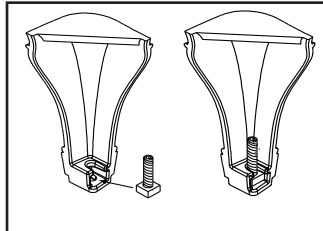
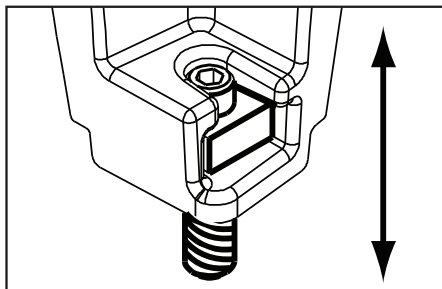

Figure 19.2
Figure 19.3 - Bolt fully extended
2. Slide assembled nuts and bolts into slots on legs with the nuts on the bottom. **Figure 19.2.** Use a 5/32 in. (3.96mm) Allen wrench to adjust legs up and down to desired level. **Figure 19.3**